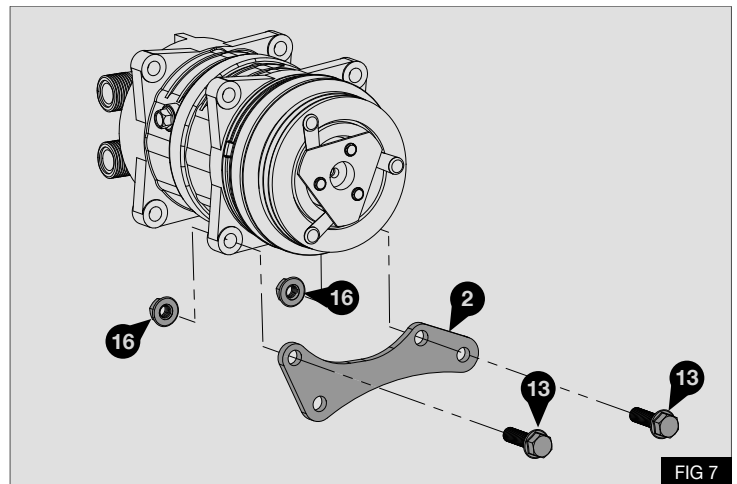

FIG 7
11. Fit the supplied support plate (2) to the compressor as shown opposite using bolts M10x35 (13) with nuts (16). Note the orientation of the compressor and plate.
Torque bolts (13) to 63 Nm / 46 lb-ft - Fig 7